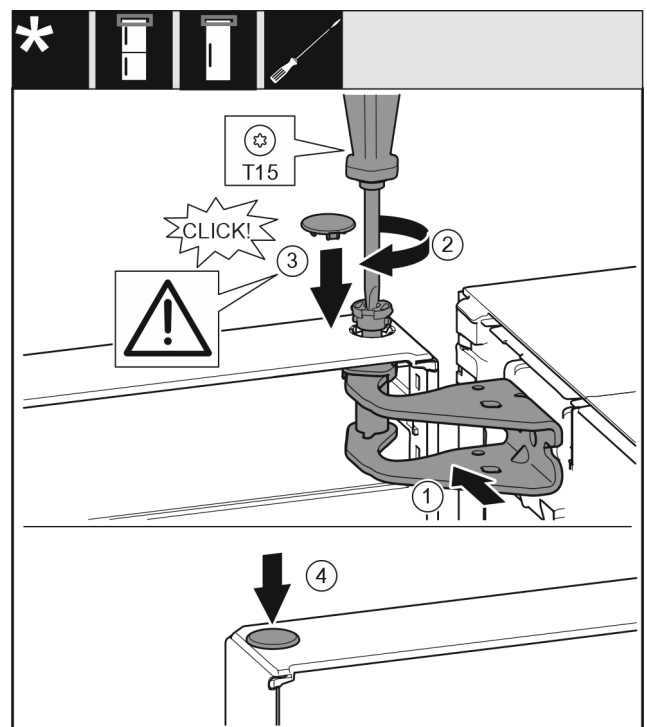

Fig. 22
- ▶ Align the top of the door with opening in the bearing bracket. Fig. 22 (1)
- ▶ Insert the bolt Fig. 22 (2) and use screwdriver to tighten it.
- ▶ Fit the safety cover Fig. 22 (3) to secure the door: Insert the safety cover and check whether the door is resting on it. Otherwise, insert the bolt fully.
- ▶ Insert the plug Fig. 22 (4).